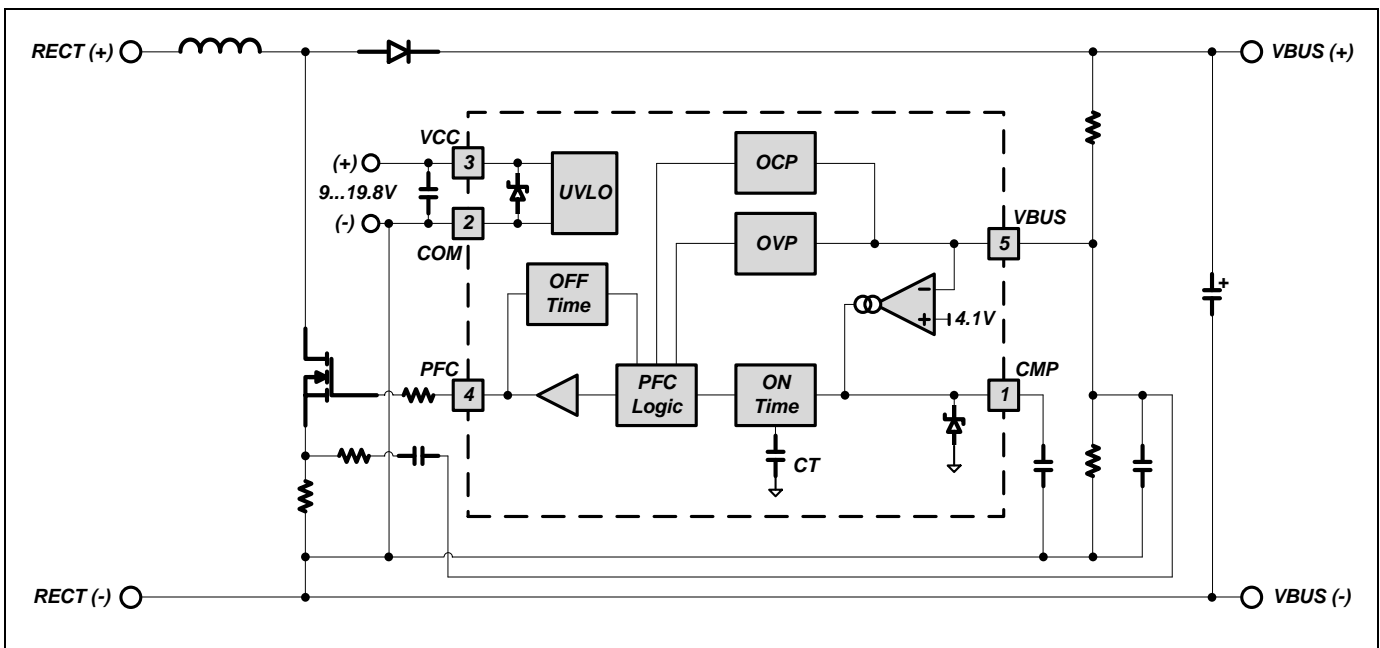

Figure 3: PFC control circuitry
The IRS2505 internal control circuit blocks shown in figure 3 include; the feedback error amplifier controlling on-time via timing capacitor (CT), zero-crossing (ZX) detection and off-time control, gate drive output, over-voltage protection (OVP) and over-current protection (OCP). The PFC pin is a multi-function input/output pin used for driving the external PFC MOSFET gate and also for sensing the PFC inductor current zero-crossing during the off-time. The VBUS pin is also a multi-function pin used for monitoring the DC bus voltage through an external divider network and also measuring the MOSFET (MPFC) source current. An internal OTA compares the voltage feedback with an accurate internal voltage reference (VBUSREG) to control the CMP pin voltage by charging and discharging the external compensation capacitor (CCMP). The voltage level at the CMP pin determines the on-time to control power transfer to the output. The MOSFET current is measured with a current-sensing resistor and then AC-coupled onto the VBUS pin through an external series resistor and capacitor.